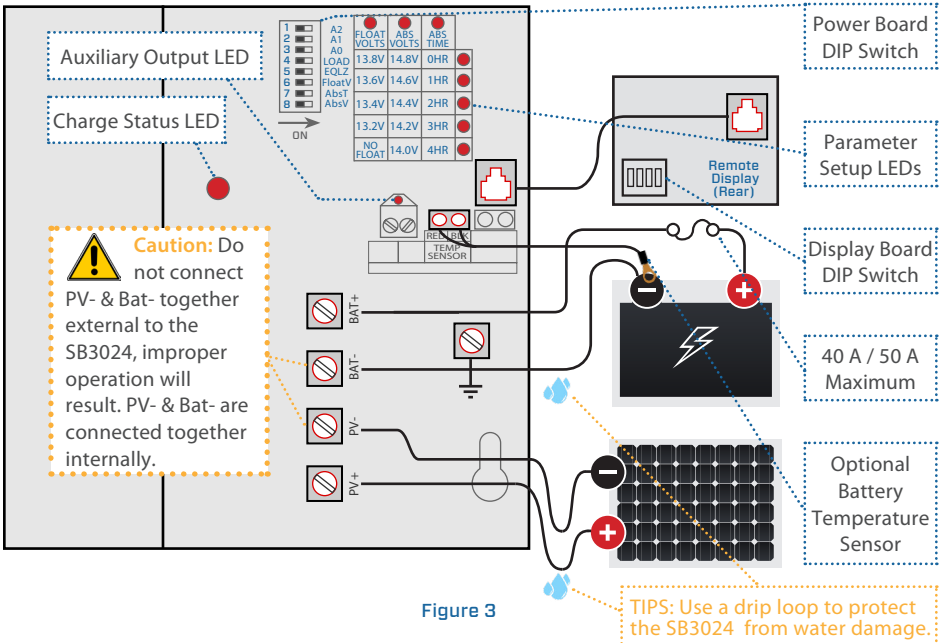

Figure 3
Certain battery types (including lithium) or system configurations may require 2-stage charge control. The SB3024 can be configured for two stage Bulk/Absorption charge control by setting the Float Voltage to "No Float" with the DIP switches (see figure 3) or by the IPN ProRemote, BT Connect, and the UCM. Refer to the IPN ProRemote, BT Connect, or UCM operators manual for their settings.
WARNING: Read, understand and follow the Important Safety Instructions in the beginning of this manual before proceeding. This unit must be installed and wired in accordance with National Electrical Code, ANSI/NFPA 70. Over current protection must be provided externally. To reduce the risk of fire, connect to a circuit provided with 40 A maximum branch-circuit over current protection (50 A with 12 V battery and 12 V PV (Panel) modules) in accordance with National Electrical Code, ANSI/NFPA 70. Do not connect a PV (Panel) array capable of delivering greater than 24 A of short circuit current I_{SC} at STC (32 A with 12 V battery and 12 V PV modules). Do not connect BAT- and PV- together external to the unit. The unit is not provided with a GFDI (ground-fault detector/interrupter) device and must be used with an external GFDI device as required by Article 690 of NEC for the installation location. To reduce risk of electric shock, remove all sources of power before installing or servicing. Figures 3, 4 and 5 show generalized connections only and are not intended to show all wiring, circuit protection and safety requirements for a photovoltaic electrical system.
Setup parameters are divided into two categories, **Basic** and **Advanced**. Basic parameters can be configured with the SB3024 alone within limited steps and ranges as shown in Figure 3. Advanced parameters require the IPN ProRemote, UCM, or BT Connect to access. The IPN ProRemote, BT Connect, and UCM also allows basic settings to be configured in smaller steps and over wider ranges. All setup parameters are retained if power is lost, or the IPN ProRemote/BT Connect/ProTouch/UCM is used as a setup tool only and removed.
2. Turn **ALL 8** power board DIP switches shown in Figure 3 ON.
Absorption Voltage, Float Voltage and Absorption Time setpoints can be viewed or changed using the parameter setup LED's and DIP switch shown in Figure 3. Operate only one switch at a time. To view the present setting turn the appropriate DIP switch ON momentarily (AbsV #8, FloatV #6, or AbsT #7). For a 24 V battery the actual voltage setpoints are doubled.
The auxiliary output can serve one of three functions; 1) a 2 A auxiliary battery charger, 2) a 20 A load controller with Low Voltage Disconnect (LVD), or 3) a 20 A variable Dusk-to-Dawn lighting load controller with Low Voltage Disconnect (LVD). The Charge/Load function is selected by DIP switch #4 shown in Figure 3. The IPN ProRemote, BT Connect, or UCM is required to adjust LVD thresholds or enable Dusk-to-Dawn lighting control. Auxiliary outputs in a multi-controller system will function normally, but only the auxiliary output in the master can be configured or monitored using the IPN ProRemote. The auxiliary output "Load" LED will illuminate whenever the auxiliary output is ON (*).